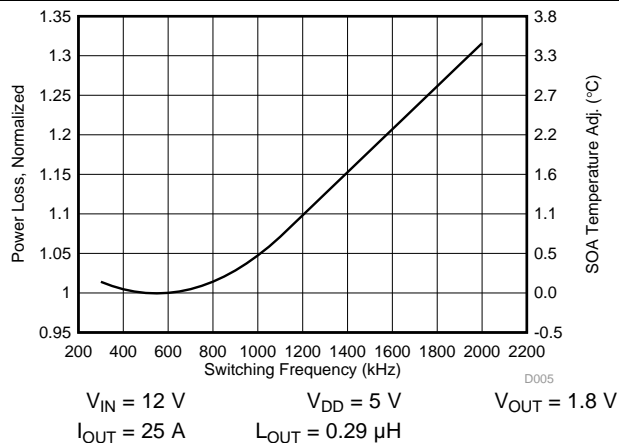

Figure 8. Normalized Power Loss vs Frequency
- Normalized Power Loss for switching frequency ≈ 1.01 (Figure 8)
- SOA adjustment for switching frequency $\approx 0.16^\circ\text{C}$ (Figure 8)